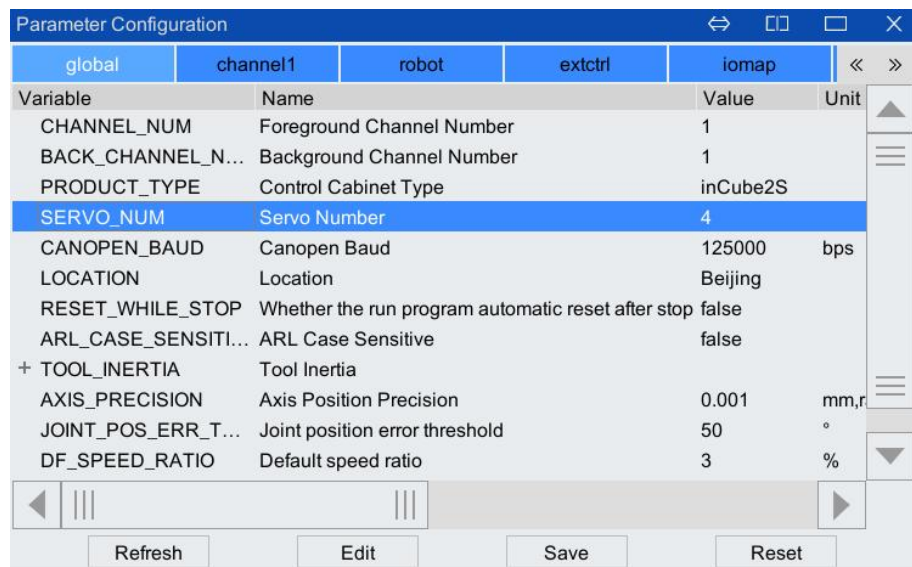

Figure 8-4 "Global" tab
Step1. In "global" tab, find and highlight the line where "SERVO_NUM (number of slaves)" is located (see Figure 8-4), click <Edit> button below to pop up the edit box, as shown in Figure 8-5.